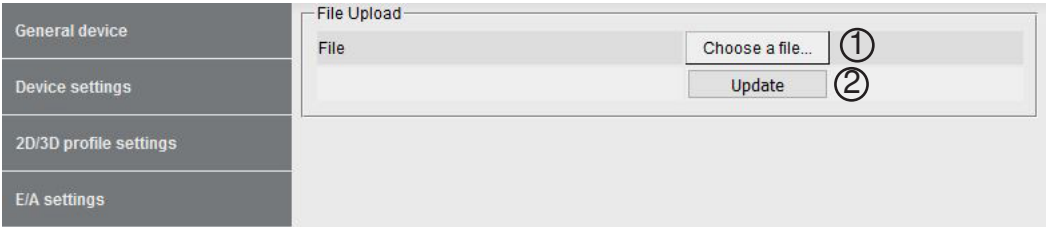

Fig. 68: Start window update process
Click „Choose a file“ (1) and select the file „Firmware\_weCat3D\_xxx.run“. The file can be downloaded at [www.wenglor.com](http://www.wenglor.com) from the product's download area. Then acknowledge by clicking „Update“ (2) and wait until updating has been completed (see Fig. 68 ... Fig. 70).